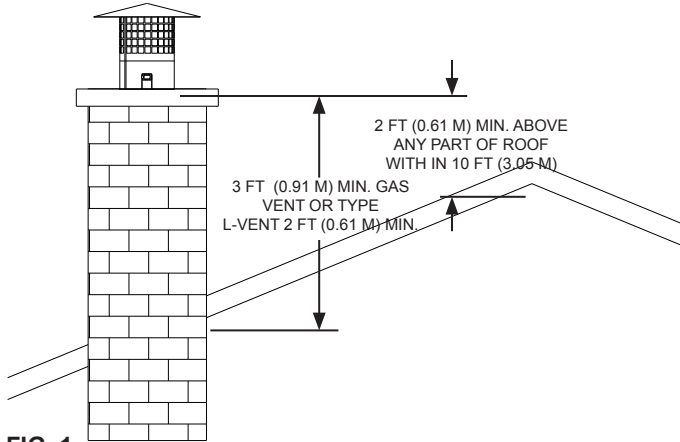

FIG. 1 LINER CLEARANCES
5. Termination of the masonry chimney above the roof will need to meet NFPA 211 requirements. Chimneys are required to be at least 3 ft (0.91m) above the highest point they pass through the roof, and at least 2 ft (0.61m) higher than any part of the structure within a 10 ft (3.05m) radius (See FIG. 1).